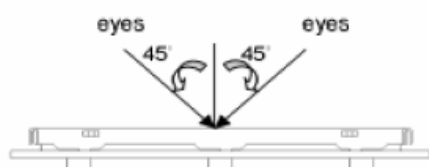

Fig.1
One data bit is transferred during each clock pulse. The data on the SDA line must remain stable during the HIGH period of the clock pulse because changes in the data line at this time will be interpreted as a control signal. Bit transfer is illustrated in Fig.1.
(3). The test direction is base on about around 45° of vertical line. (Fig. 1)